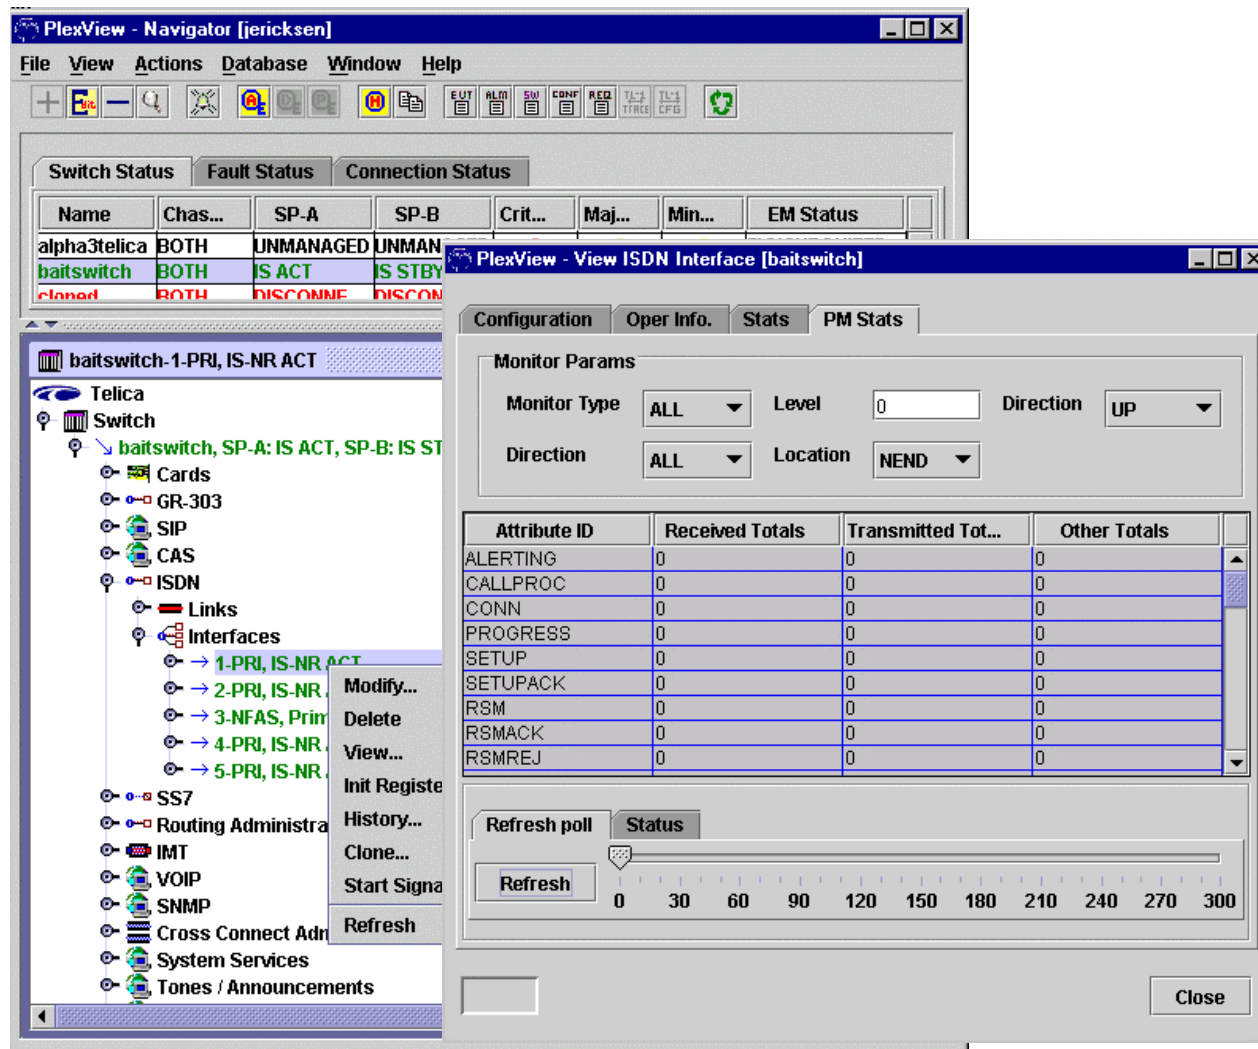

Figure 2. ISDN PM Stats
8. Retrieve current and historical performance data for ISDN messages in the Plexus 9000. Double-click the switch name in the switch status panel to select it for the main panel. Double-click *ISDN* and then *Interfaces*. Right-click an interface and select *View*, *PM Stats* and then click *Refresh* near the bottom of the panel for latest information. Refer to Figure 2.